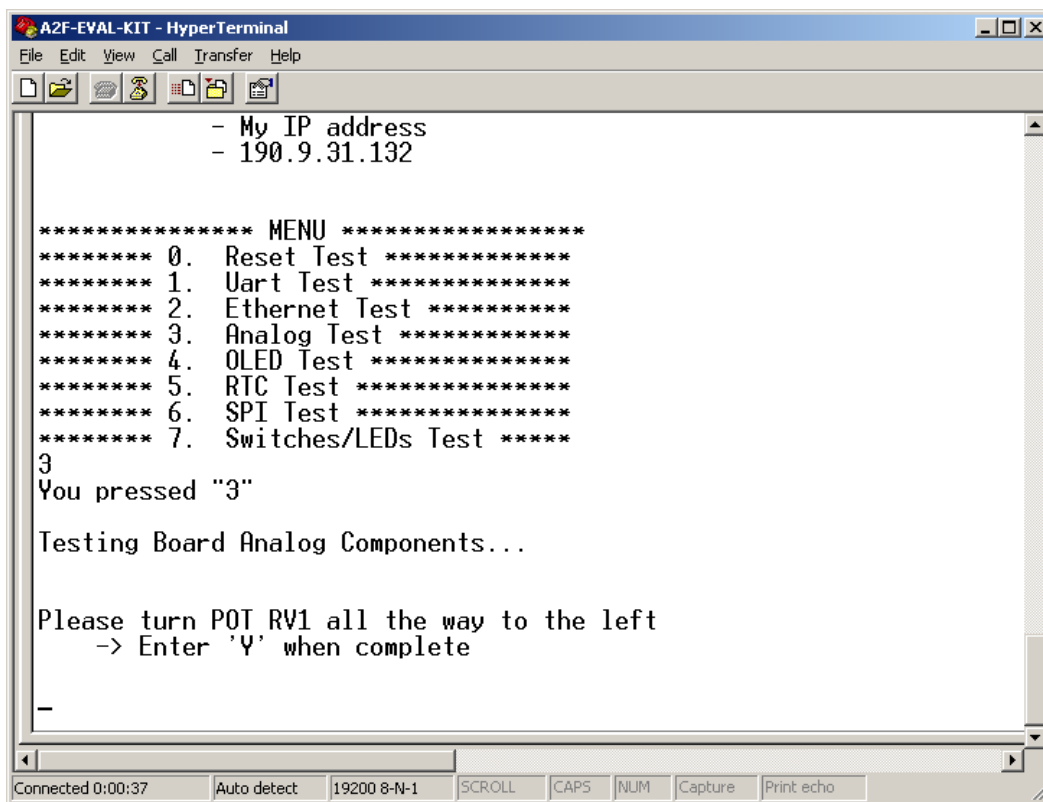

Figure 18 • Analog Test
1. Enter **3** into the terminal to begin the Analog test. The screen shown in Figure 18 should appear.